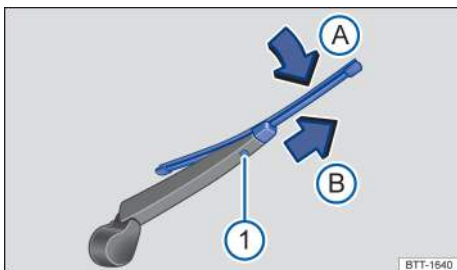

Fig. 155 Changing the rear window wiper blades.
- Lift the wiper arm away from the rear window in the direction of arrow A → fig. 155.
- Press and hold the release button → fig. 155 ①.
- Install a new wiper blade of the **same length and type** onto the wiper arm by pushing in the opposite direction of the arrow → fig. 155 B until it latches.